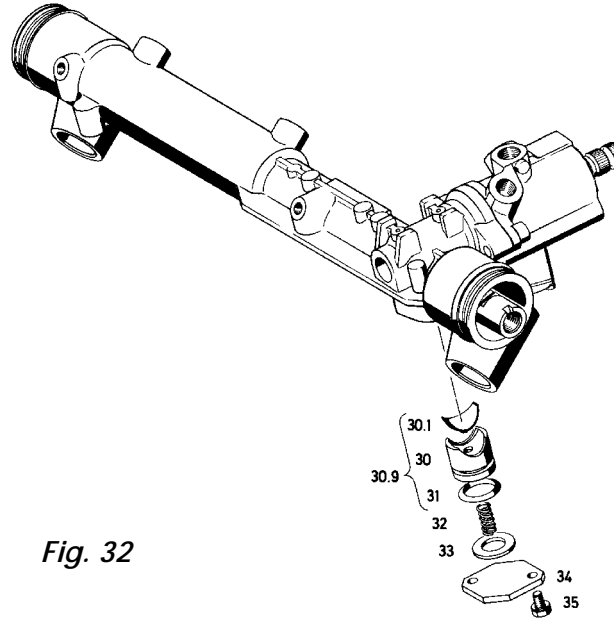

Fig. 32
Insert the yoke (30), with the insert foil (30.1) but without the O-rings (31), into the housing(1) (*Fig. 32*).